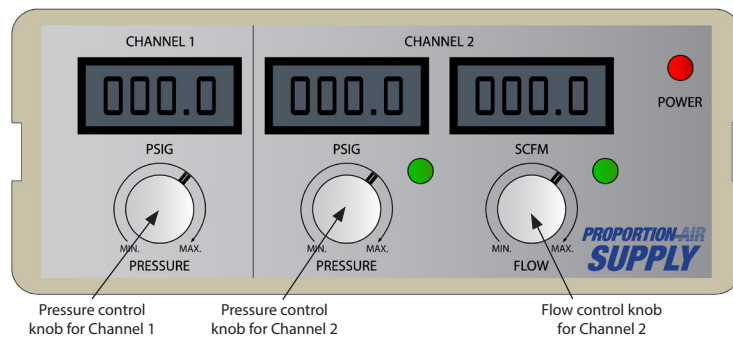

Figure 3
2. Channel 1 will be controlled by a single knob, while Channel 2 uses 2 separate control knobs, one for flow control and the other for pressure control. The control knobs on this supply will decide how much pneumatic pressure/flow to regulate on their respective channel. Each output and knob are labeled in Figure 3.